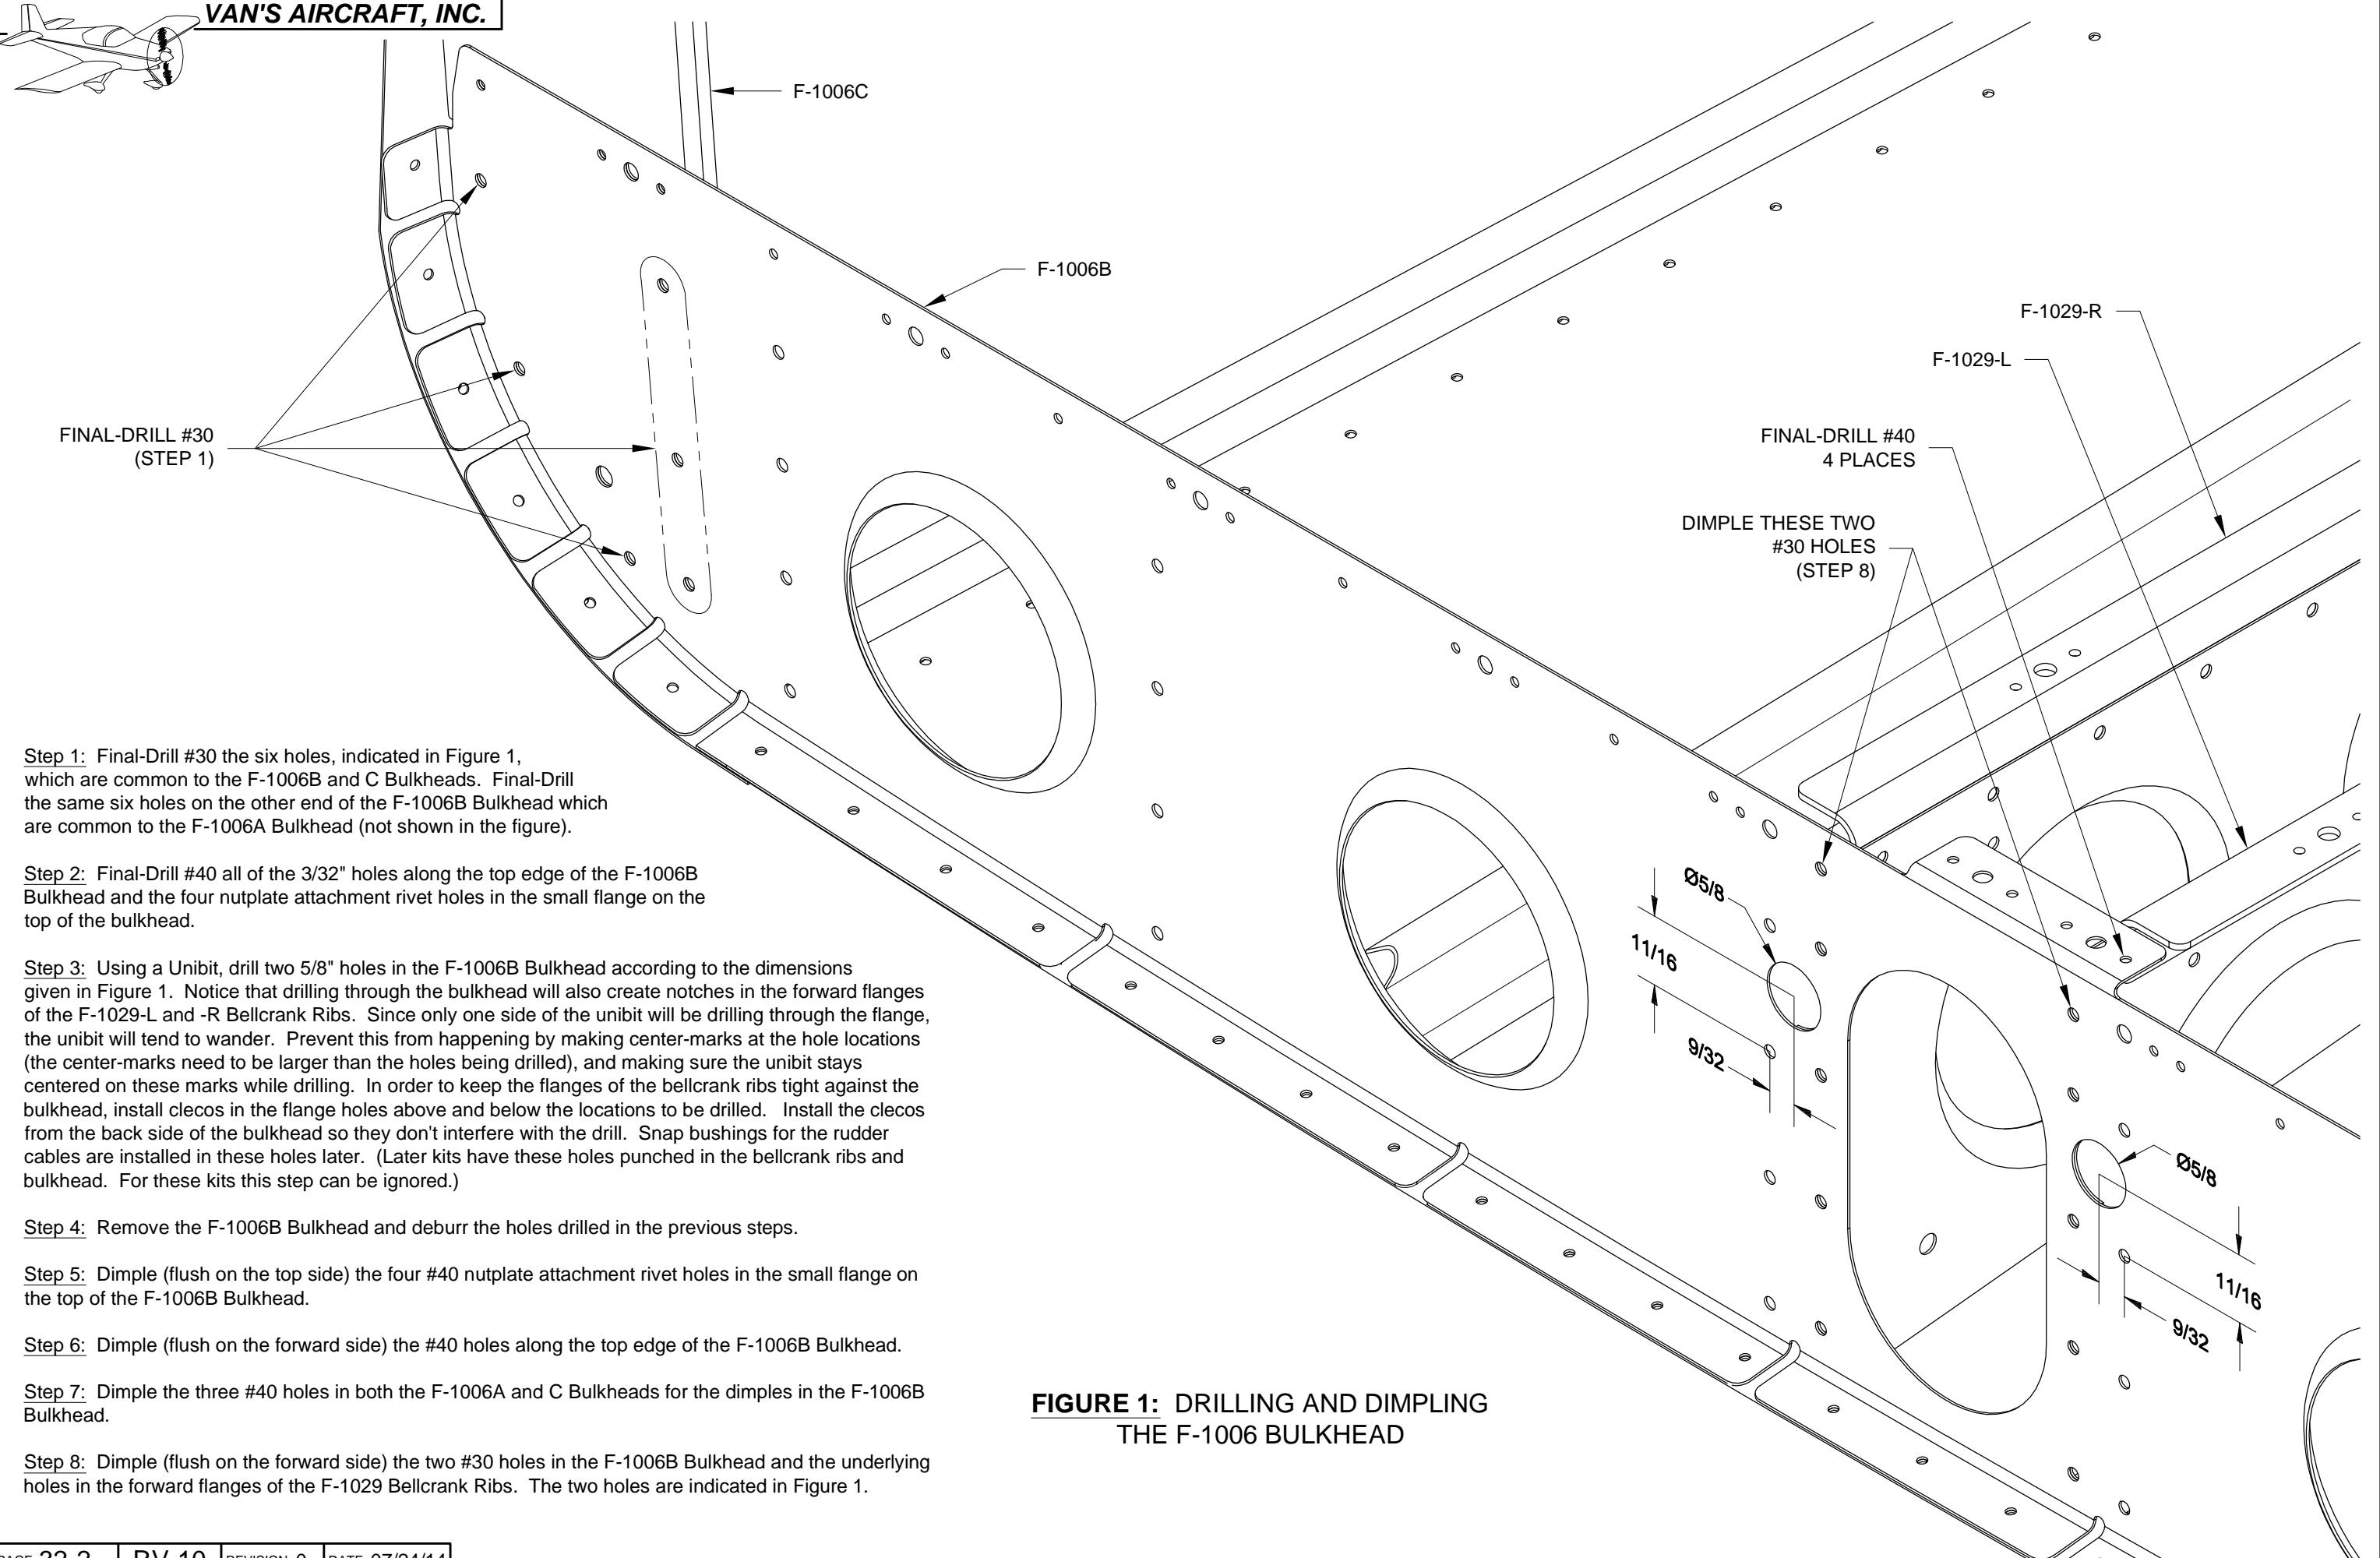

FIGURE 1: DRILLING AND DIMPLING THE F-1006 BULKHEAD
Step 2: Cleco the tailcone skins to the mid fuse skins as shown in Figure 1. All of the mid fuse skins are clecoed to the outside of the tailcone skins. Notice the following: